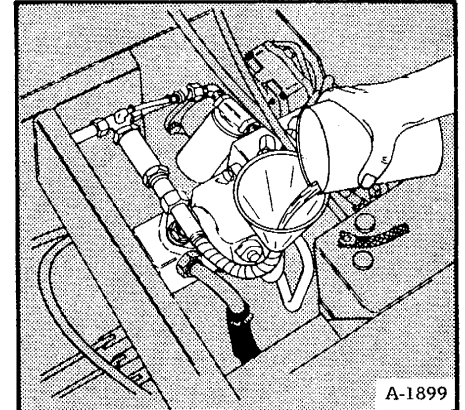

Fig. 2-9 Charging Hydraulic Pump
(1) Disconnect the high pressure tube from the side of the vane pump. Disconnect the suction tube from the top of the vane pump (Fig. 2-9).
(2) Use a funnel to pour clean hydraulic fluid into the top opening. Pour until fluid flows out the side opening. Connect the tubelines to the pump.
(3) Start the engine and run at 3/4 throttle. Operate the hydraulic controls and drive the machine for about 15 minutes. If the hydraulic action is still not smooth, check the system for air leaks.